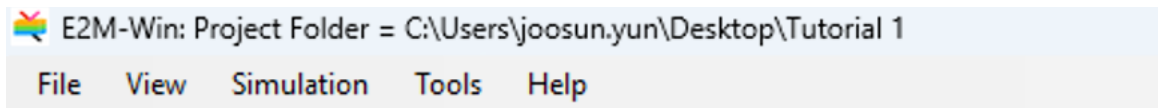

Figure 7. Changed title bar after the selection of project folder.
6. The selected project path will now be displayed as shown in Figure 7 in the top title bar.